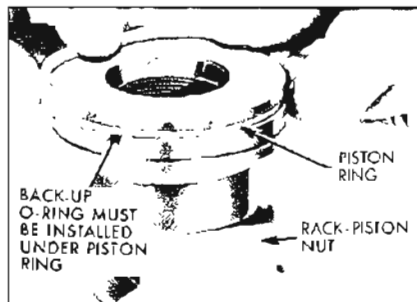

Figure 8-55—Installing Rack-Piston Ring and on Rack-Piston Nut
2. Install new piston ring back-up "O" ring in groove on rack-piston nut. Place a new piston ring over the back-up "O" ring. See Figure 8-55.